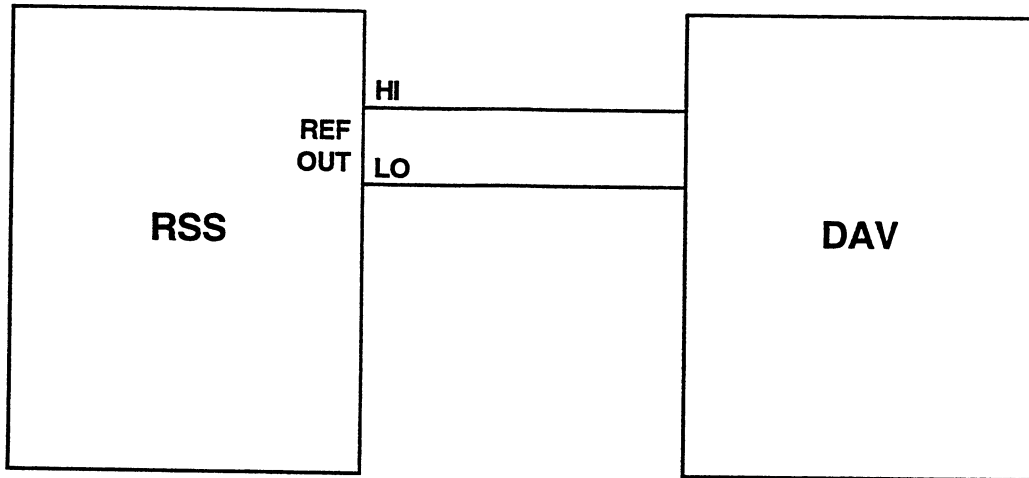

Figure 5-3. Test Setup, Internal Reference AC Voltage Tests
<p>17. Check for sine wave and that multimeter reading is between 62.3668 and 64.9124.</p> <p>18. Connect oscilloscope and RMS multimeter to RSS terminals S1 (LO) and S3 (HI) and check for sine wave and that multimeter reading is between 62.3668 and 64.9124.</p> <p>19. With power off, see figure 5-3 and connect test equipment as shown.</p>